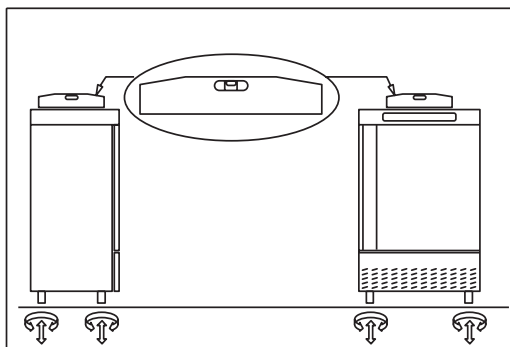

Fig.5
- position the blast chiller using a level with possible adjustment of the feet of the metal base (Fig. 5)
- position the blast chiller as described above (Fig. 5)